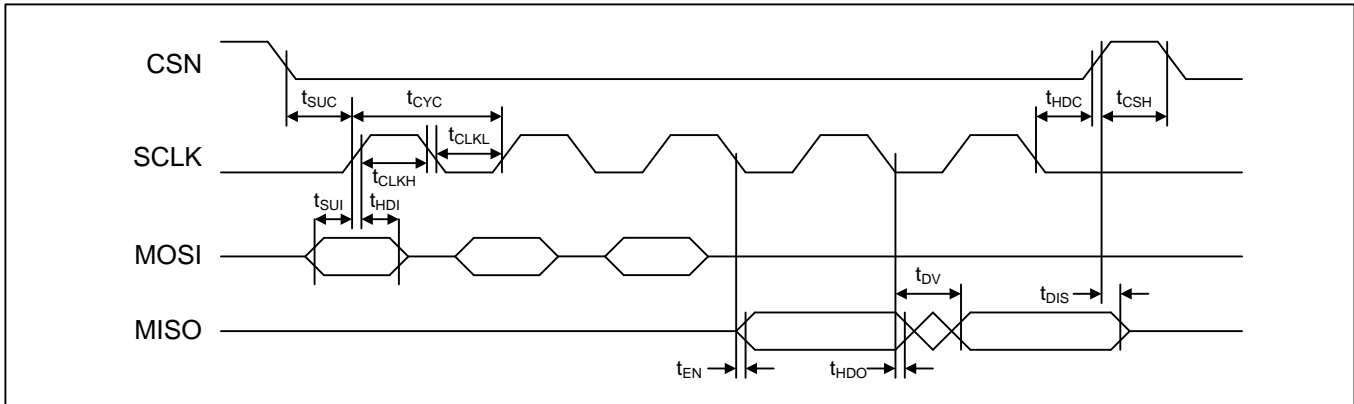

Figure 26 - SPI Interface Timing
**Note 3:** See timing diagram in Figure 26.
**Note 4:** See timing diagram in Figure 26.